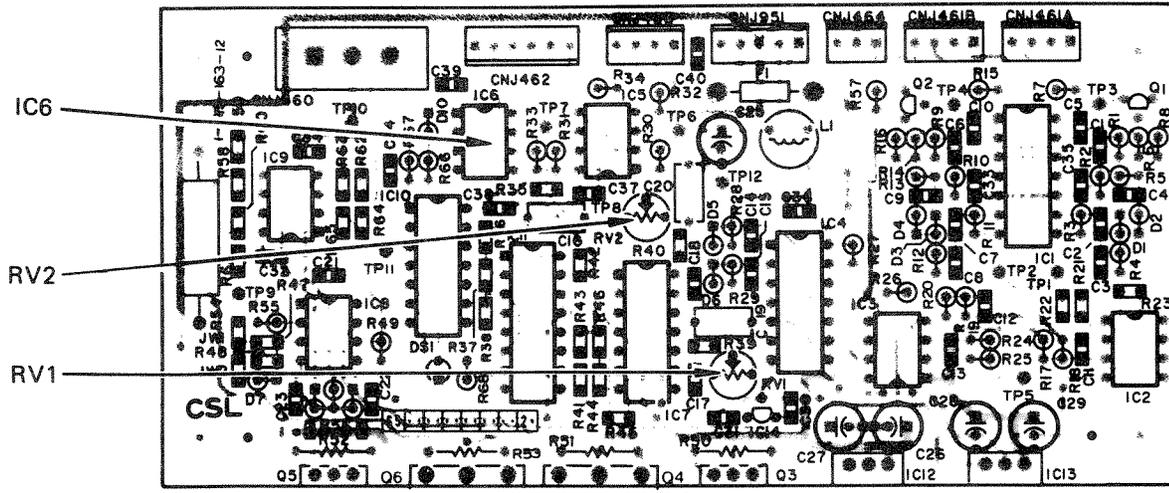

Figure 6-28. CSL PC Board
- STEP 2** Adjust RV1 on the CSL Board (see Figure 6-28) to the center position and set RV2 to the fully counter clockwise position.